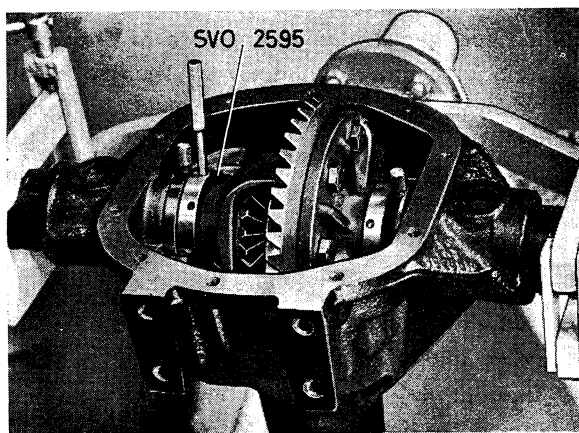

Fig. 4-156. Adjusting rings for differential
1. Lubricate the inside of the adjusting rings SVO 2595 and put them on the differential carrier. The ring with the block-oxidized adjusting ring should be placed on the crown wheel side. Also lubricate the bearing location in the carrier. Place the differential carrier and the adjusting rings in the final drive housing, see Fig. 4-156. Use the dial indicator and adjust in the rings so that the correct backlash 0.15 mm (0.006") is obtained. The tooth flank clearance may vary between 0.13 mm (0.005") and 0.20 mm (0.008"), but should be kept as near 0.15 mm (0.006") as possible. Tighten the lock screws in the adjusting rings.